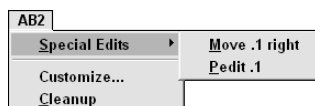

Figure 33-10: The AB2 menu, including the sub-menu.
- Look at the menu. It should look like Figure 33-10. Notice the sub-menu and the separator line.